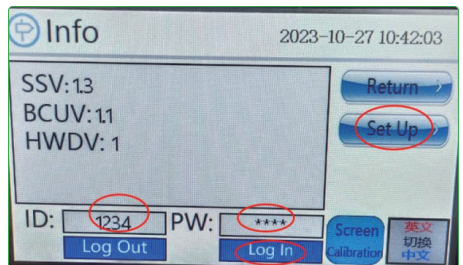

Figure 2
- Unzip the zip file, and you can choose to install it with the driver installation tool or install it manually (Figure 2)